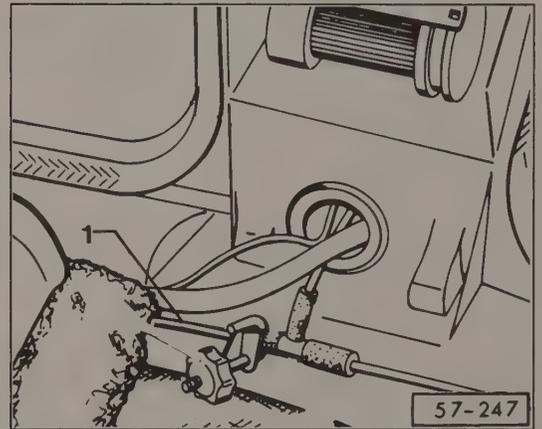

Fig. 5-11. Hose being clamped (1) near lower part of B-pillar to block air flow to right front door.
- To determine which right door activator is faulty, remove the right carpet trim strip and unscrew the lower B-pillar trim. Clamp the hose shown in Fig. 5-11. If the pump runs longer than 5 seconds when activated, the rear door activator or its hose is faulty. If the pump turns off within 5 seconds, the front door activator or its hose is faulty. Remove the clamp.